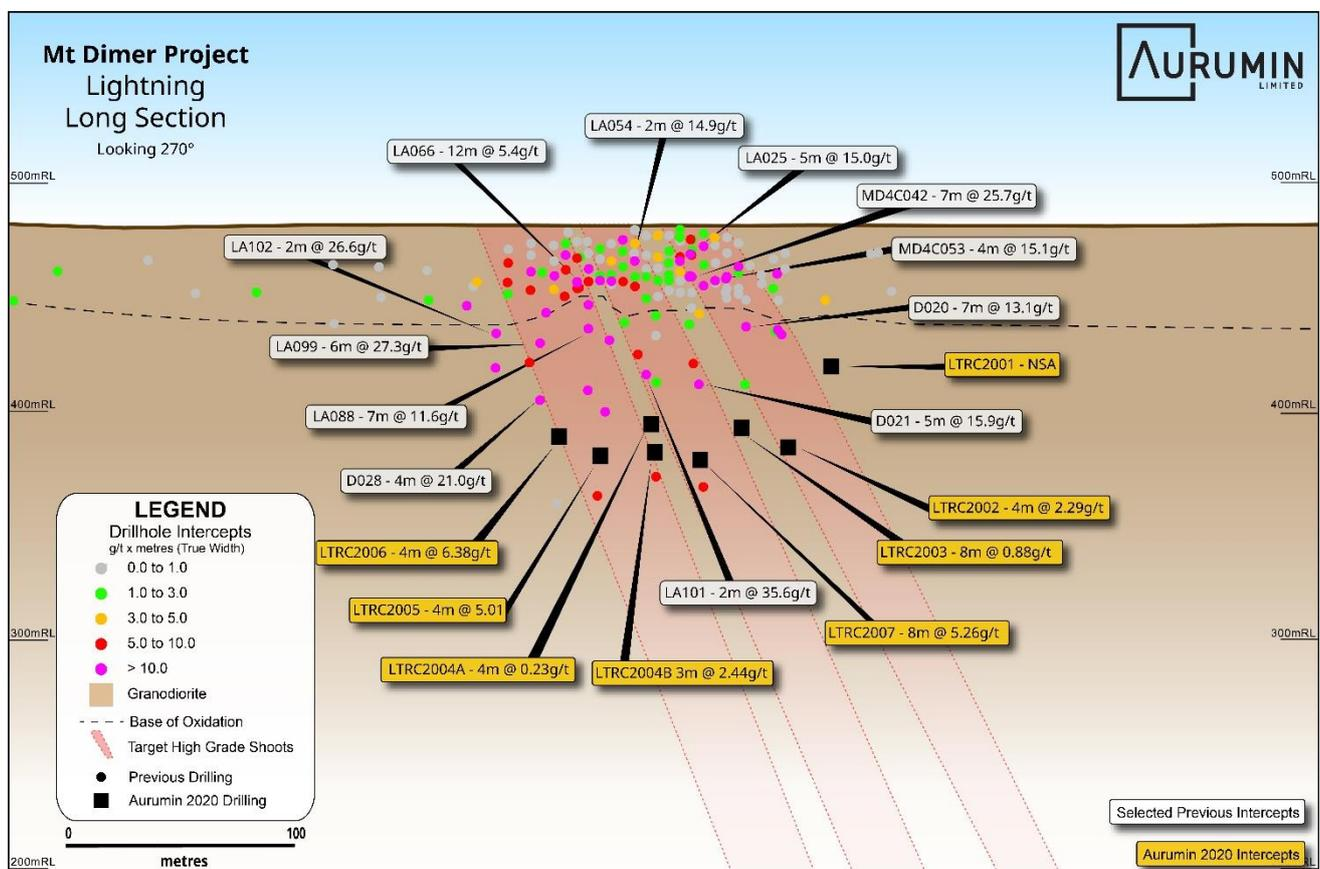

Figure 1 – Mt Dimer Project – Lightning Deposit – Long Section
Aurumin completed 7 Reverse Circulation (RC) drill holes for 881m at Lightning and 6 RC drill holes for 757m at Golden Slipper at the Mt Dimer project. Drilling at Lightning and Golden Slipper was designed to intercept northerly trending mineralised structures predominantly down dip from historical work, as shown in long section in Figures 1 and 2 below.